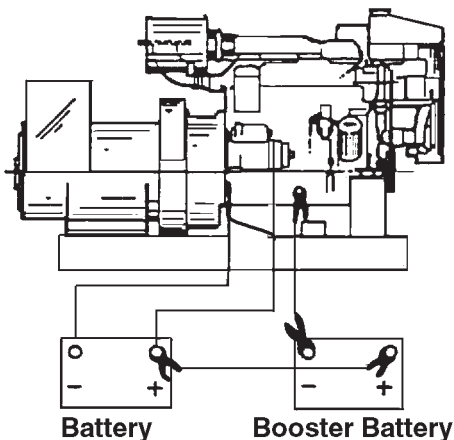

Figure 14. Booster Battery Connections.
3. First, connect positive (+) terminal of booster battery to positive (+) terminal of main battery. Then, connect negative (-) terminal of booster battery to ground on the engine block (see Fig. 14).